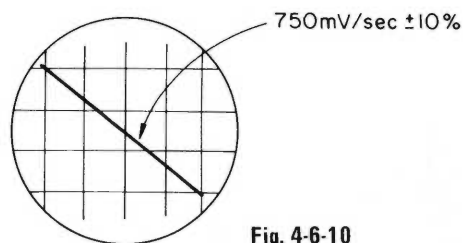

Fig. 4-6-10
- 3) Under the condition, make sure that a diagonal line on the scope is within 750mV/sec \pm 10% as shown in Fig. 4-6-10.
- 4) Check inclination of the waveform appearing on the oscilloscope at this time is 750 mV/sec \pm 10% as shown in Fig. 4-6-10.